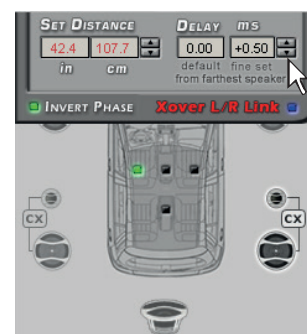

Fig. 6
For groups of speakers choose an intermediate point between them. It will then be possible to perform fine tuning by using the Fine Set function. (fig.6)
5. Perform all time delays settings, start playing music and select the Fine Set box. As you move it positive or negative (except for the Subwoofer in Fig.6 since it is the farthest speaker), you will find the best time alignment and correct acoustic scene.